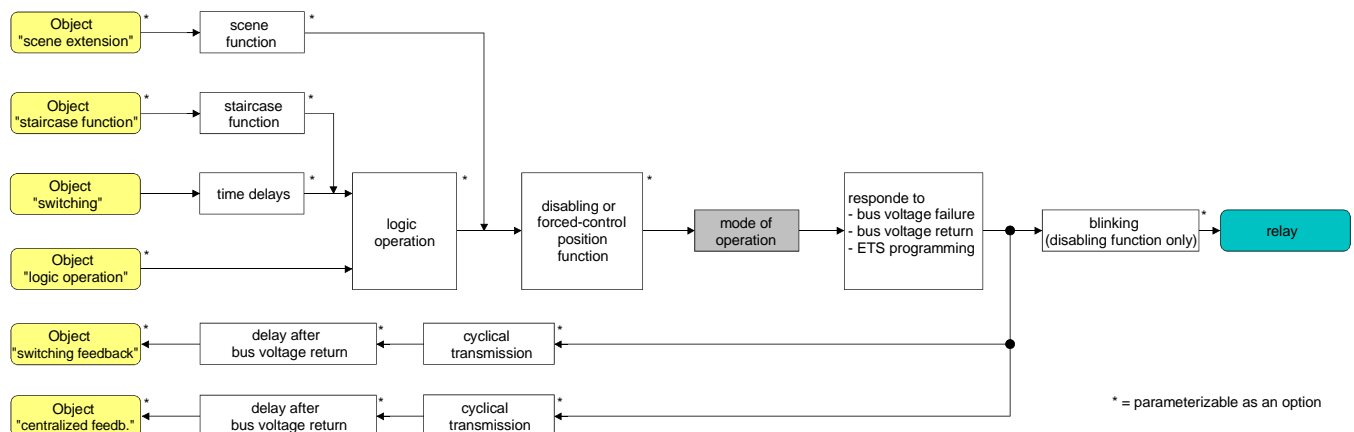

Fig. 6: Functional diagram "Mode of operation"
- ❗ The logic switching state ("on - 1" or "off – 0") is set by the communication object "Switching" and influenced by the functions that can be optionally activated (e.g. timing/staircase functions, logic operations, disabling/forced-control position functions, scenes – cf. Fig. 6).